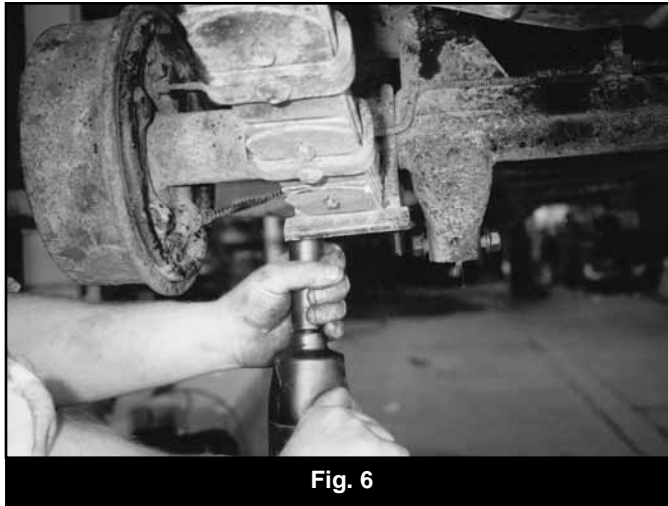

Fig. 6
28. Position u-bolt plates and install the new u-bolts, washers and nuts along with the new bump stop contact extensions. These are retained by the outer u-bolts. **Note:** BDS 3.5" YJ box kit #014350 includes these. The 2" BDS system, box kit #014200, does not require or include bump stop contacts. (Fig. 6)